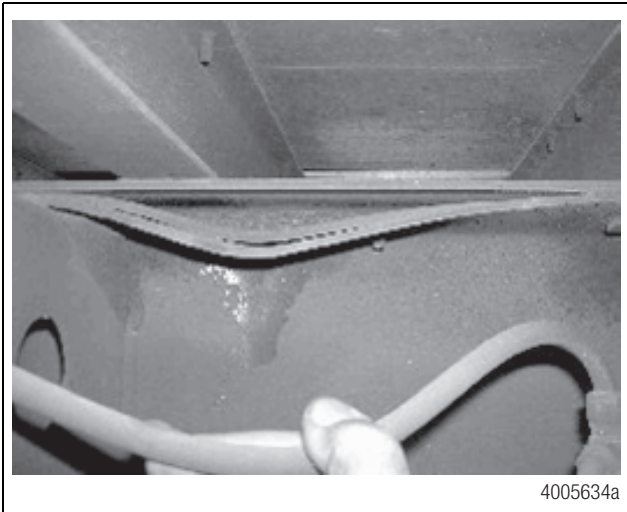

Figure 12
- **If the slider top flange and vertical wall are bent, or there's a crack across the top flange between cross members one and two:** Refer to Level Two Repair — Slider Top Flange and Vertical Side Wall are Bent Between Cross Members One and Two or a Crack Across the Top Flange of the Slider Between Cross Members One and Two with a Crack Propagation in the Vertical Side Wall in this bulletin. Figure 12 and Figure 13.